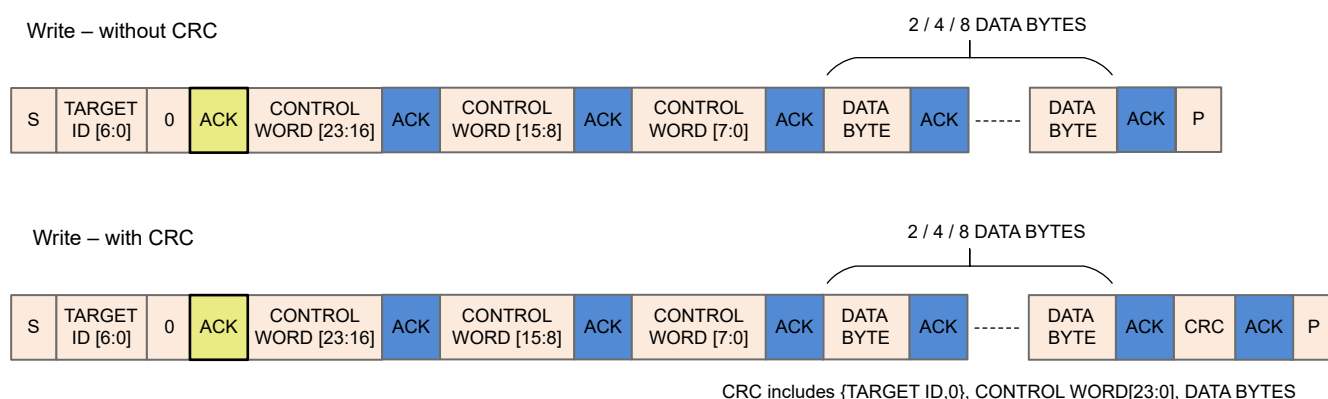
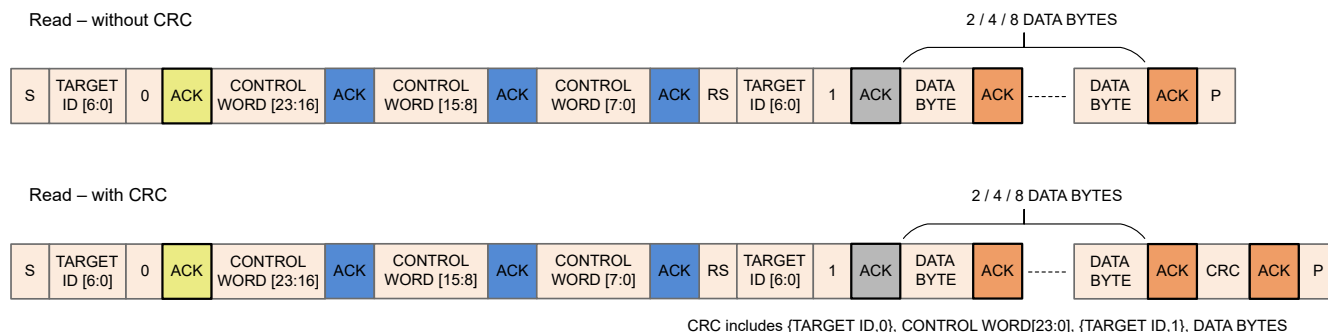

Figure 6-65. I²C Write Transaction Sequence
Figure 6-66. I²C Read Transaction Sequence
MCF8316D-Q1 write transaction over I²C involves the following sequence (see Figure 6-65).
MCF8316D-Q1 read transaction over I²C involves the following sequence (see Figure 6-66).
- When target ID is a match, I²C peripheral in MCF8316D-Q1 raises a start interrupt request. Until this start interrupt request is processed, clock is stretched. Upon processing this request, clock is released and an ACK (marked in yellow or grey in Figure 6-65 and Figure 6-66) is sent to the controller for continuing with the transaction.
- Receive interrupt pending:** When a receive interrupt is waiting to be processed and the receive register is full which occurs when two successive bytes (data or control) have been received by MCF8316D-Q1 (separated by one ACK shown as blue boxes in Figure 6-65 and Figure 6-66) without the receive interrupt generated by the first byte being processed. Upon receive of second byte, clock is stretched until receive interrupt generated by the first byte is processed.